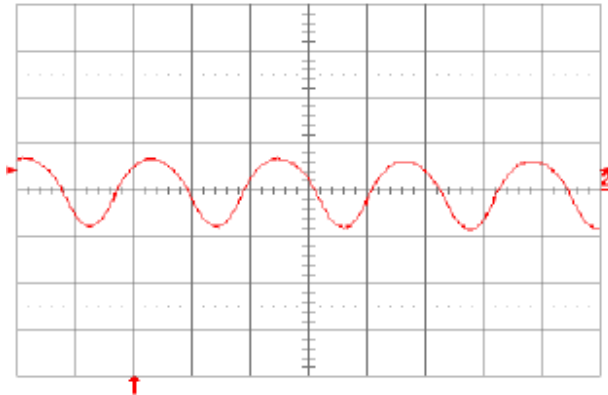

**Fig. 1.8V.12:** Test setup for measuring input reflected ripple currents,  $i_c$  and  $i_s$
**Fig. 1.8V.1:** Available load current vs. ambient air temperature and airflow rates for SQE48T30018 converter mounted vertically with air flowing from pin 3 to pin 1, MOSFET temperature  $\leq 120$  °C,  $V_{in} = 48$  V.
**Fig. 1.8V.3:** Efficiency vs. load current and input voltage for SQE48T30018 converter mounted vertically with air flowing from pin 3 to pin 1 at a rate of 300 LFM (1.5 m/s) and  $T_a = 25$  °C.
**Fig. 1.8V.5:** Power dissipation vs. load current and input voltage for SQE48T30018 converter mounted vertically with air flowing from pin 3 to pin 1 at a rate of 300 LFM (1.5 m/s) and  $T_a = 25$  °C.
**Fig. 1.8V.2:** Available load current vs. ambient air temperature and airflow rates for SQE48T30018 converter mounted horizontally with air flowing from pin 3 to pin 1, MOSFET temperature  $\leq 120$  °C,  $V_{in} = 48$  V.
**Fig. 1.8V.4:** Efficiency vs. load current and ambient temperature for SQE48T30018 converter mounted vertically with  $V_{in} = 48$  V and air flowing from pin 3 to pin 1 at a rate of 200 LFM (1.0 m/s).
**Fig. 1.8V.6:** Power dissipation vs. load current and ambient temperature for SQE48T30018 converter mounted vertically with  $V_{in} = 48$  V and air flowing from pin 3 to pin 1 at a rate of 200 LFM (1.0 m/s).
**Fig. 1.8V.7:** Turn-on transient at full rated load current (resistive) with no output capacitor at  $V_{in} = 48\text{ V}$ , triggered via ON/OFF pin. Top trace: ON/OFF signal (5 V/div.). Bottom trace: Output voltage (1 V/div.). Time scale: 2 ms/div.
**Fig. 1.8V.8:** Turn-on transient at full rated load current (resistive) plus 10,000  $\mu\text{F}$  at  $V_{in} = 48\text{ V}$ , triggered via ON/OFF pin. Top trace: ON/OFF signal (5 V/div.). Bottom trace: Output voltage (1 V/div.). Time scale: 2 ms/div.
**Fig. 1.8V.9:** Output voltage response to load current step-change (10 A – 20 A – 10 A) at  $V_{in} = 48\text{ V}$ . Top trace: output voltage (100 mV/div.). Bottom trace: load current (10 A/div.). Current slew rate: 0.1 A/ $\mu\text{s}$ .  $C_o = 1\ \mu\text{F}$  ceramic. Time scale: 0.2 ms/div.
**Fig. 1.8V.10:** Output voltage response to load current step-change (10 A – 20 A – 10 A) at  $V_{in} = 48\text{ V}$ . Top trace: output voltage (100 mV/div.). Bottom trace: load current (10 A/div.). Current slew rate: 5 A/ $\mu\text{s}$ .  $C_o = 470\ \mu\text{F}$  POS + 1  $\mu\text{F}$  ceramic. Time scale: 0.2 ms/div.
**Fig. 1.8V.11:** Output voltage ripple (20 mV/div.) at full rated load current into a resistive load with  $C_o = 10\ \mu\text{F}$  tantalum + 1  $\mu\text{F}$  ceramic and  $V_{in} = 48\text{ V}$ . Time scale: 1  $\mu\text{s}$ /div.
**Fig. 1.8V.13:** Input reflected-ripple current,  $i_r$  (100 mA/div.), measured at input terminals at full rated load current and  $V_{in} = 48$  V. Refer to Fig. 1.8V.12 for test setup. Time scale: 1  $\mu$ s/div.
**Fig. 1.8V.15:** Output voltage vs. load current showing current limit point and converter shutdown point. Input voltage has almost no effect on current limit characteristic.
**Fig. 1.8V.14:** Input reflected-ripple current,  $i_s$  (10 mA/div.), measured through 10  $\mu$ H at the source at full rated load current and  $V_{in} = 48$  V. Refer to Fig. 1.8V.12 for test setup. Time scale: 1  $\mu$ s/div
**Fig. 1.8V.16:** Load current (top trace, 20 A/div., 50 ms/div.) into a 10 m $\Omega$  short circuit during restart, at  $V_{in} = 48$  V. Bottom trace (20 A/div., 2 ms/div.) is an expansion of the on-time portion of the top trace.